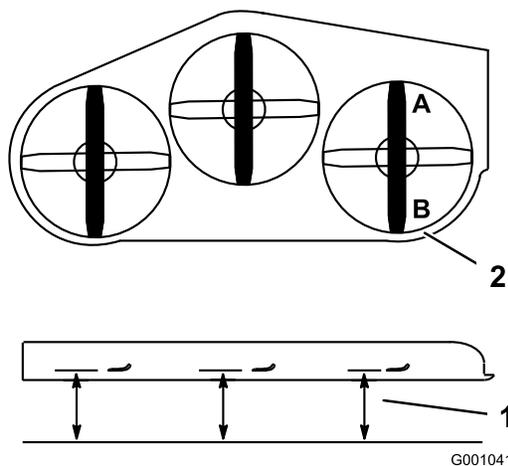

Figure 75
1. Position the right blade front-to-rear (Figure 75).
2. Measure the right blade at the **A** location, from a level surface to the cutting edge of the blade tip(Figure 75).
4. Measure the right blade at the **B** location, from a level surface to the cutting edge of the blade tip (Figure 75).
6. The mower blade should be a 1/4 to 3/8 inch (6 to 10 mm) lower at position **A** than at position **B** (Figure 75). If it is not correct, proceed to the following steps.